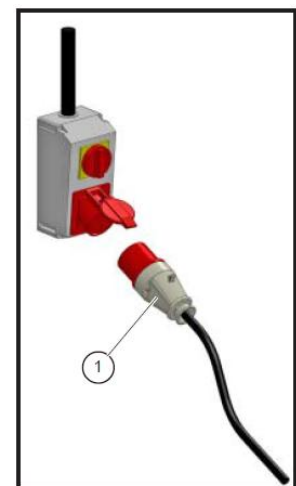

Fig. 1-12
- All interventions of cleaning and maintenance must be performed at an impasse and the lack of power supply, unless otherwise indicated; the power plug (1 Fig. 1-12) should be then be removed from the socket.
Machine turned off electrically disconnected. Plug removed from the socket (1 fig. 1-12).
Machine at stop and disconnected electric plug (1 fig. 1-12).